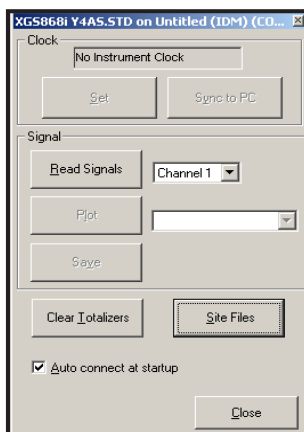

Figure 27: The *Properties* Window
3. The *Properties* window appears similar to Figure 27. To clear the XGS868i totalizers, click on the [Clear Totalizers] button. The XGS868i totalizers are reset to 0.